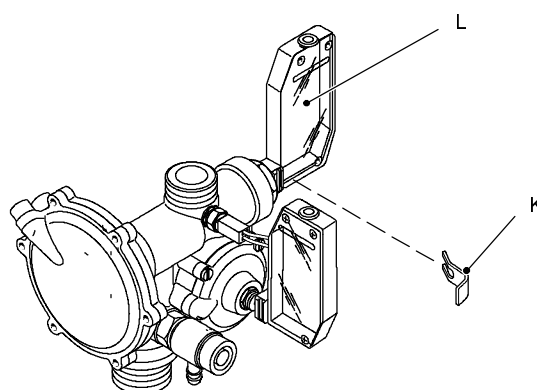

fig. 30
- 2 Remove the fork *K* that holds the d.h.w. pressure switch *L* placed on the right side of the valve and remove the switch (fig. 30).